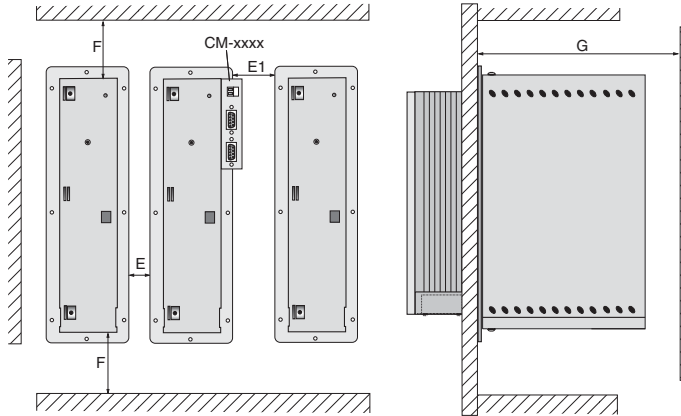

Figure 2.2 Mounting clearances (see Table 2.4)
2) Dimensions E to G see Figure 2.2